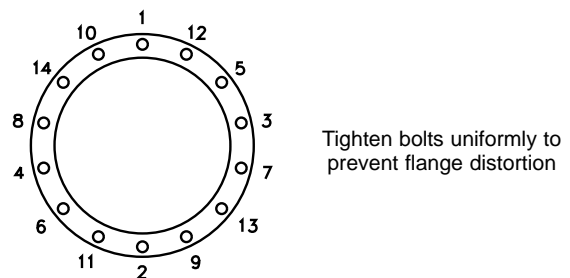

Figure 4
- 5 Install all flange hardware and alternately snug hardware at 180° locations, see Figure 4, while maintaining a uniform gap between flanges. Perform final torque sequence in a similar pattern as above to a torque value of 21 lb-ft (28 N·m). When properly installed, a small uniform gap should be visible around flange circumference.